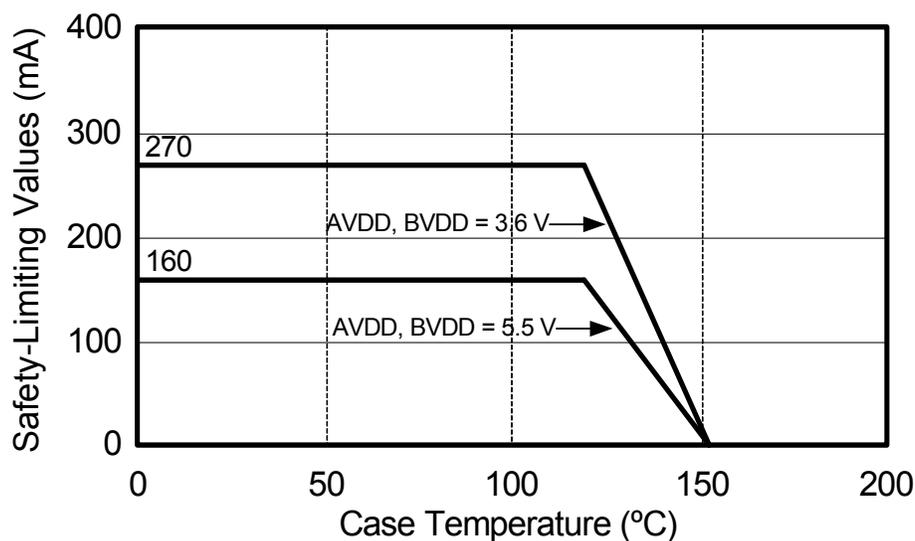
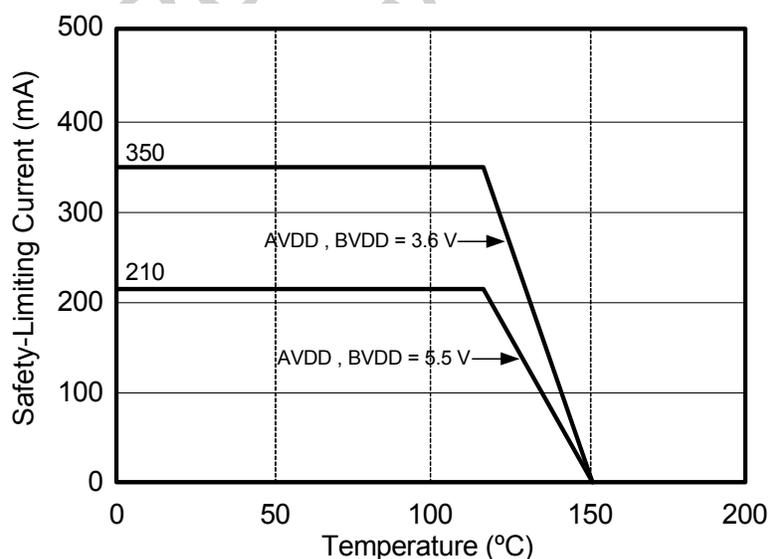

Figure 3. NB SOIC-8 Thermal Derating Curve, Dependence of Safety Limiting Values with Case Temperature per DIN EN 60747-5-2
Figure 4. NB SOIC-16 Thermal Derating Curve, Dependence of Safety Limiting Values with Case Temperature per DIN EN 60747-5-2
- Maximum value allowed in the event of a failure. Refer to the thermal derating curve in Figure 3 and Figure 4.